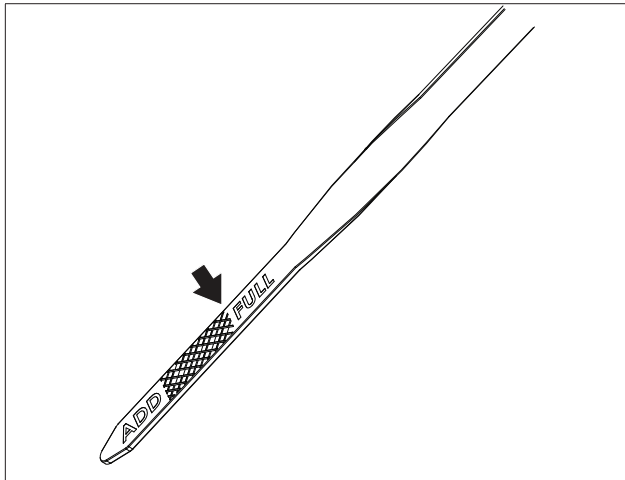

Figure 12
3. Remove the dipstick. Wipe it dry with a clean cloth and completely reinsert it into the dipstick tube. See figure 12, page 24.
9. Fill the engine with the proper amount of engine oil. See Figure 12.